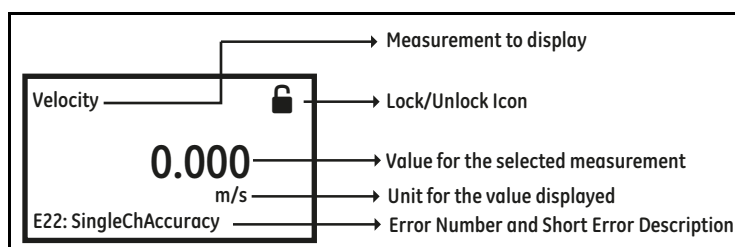

Figure 14: Measurement View
After power up, if the meter's *Measurement View* (Refer Figure 14) shows a lock icon  on the top right of the display, use the following steps to unlock the meter from keypad lockout mode.
- Finally, the *Measurement View* (Refer Figure 14)
This screen (Refer Figure 14) will be referred to as "*Measurement View*" throughout this chapter. User can choose the measurement to be displayed in this view from a list of options. The Error indicator at the bottom left of the display will be blank if the meter has no error.